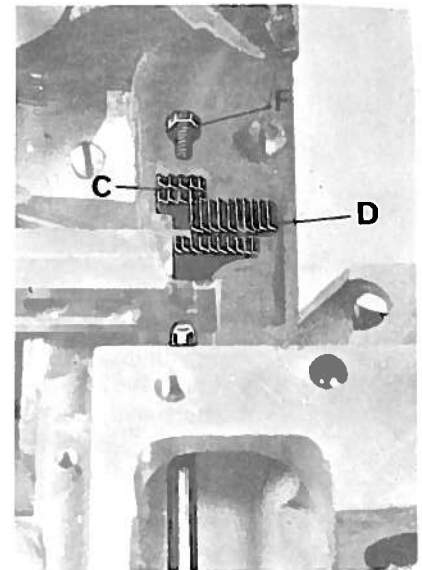

fig.14
9. Fitting and adjusting feed dogs (figs. 14 and 15)
- Fit the rear feed dogs C and D (fig. 14) and match the feed dog slides.